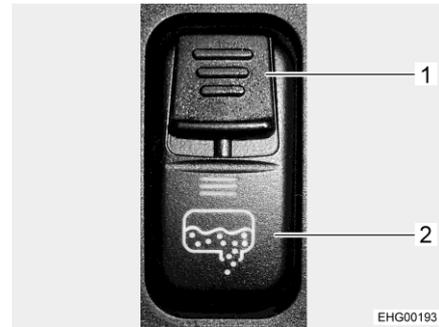

Fig. 104 Rocker switch (drain cock)
The drain cock for the waste water tank is opened and closed using a rocker switch of the switch panel in the driver's cabin. To prevent an unwanted opening of the drain cock, the rocker switch is provided with a safety slide button (Fig. 104,1). The drain pipe with a connection for a waste water hose is located under the vehicle.
- Push the safety slide button (Fig. 104,1) on the rocker switch (Fig. 104,2) downwards and, at the same time, press the lower part of the rocker switch. Doing this, the waste water valve is opened and the waste water tank is emptied. The LED is lit as long as the waste water tap is open.
- Close the drain cock again once all of the waste water has run out. In order to do this, push the operating switch (Fig. 104,1) upwards.